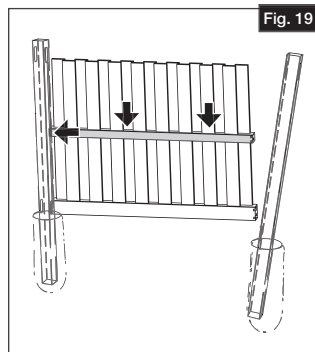

Fig. 19
- a. Insert the middle rail into middle post route holes of first post only (Fig. 19).